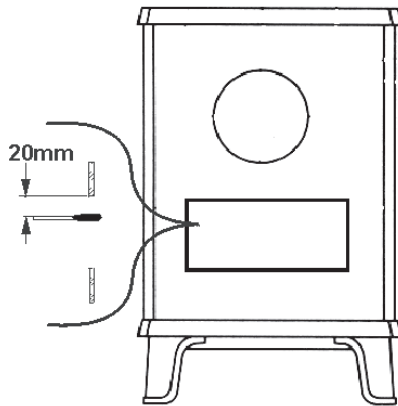

Figure 12
4. Hold a lighted smoke match close to the draught diverter outlet at the back of the stove (See figure 12).